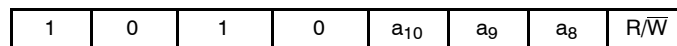

Figure 3. Slave Address Bits
The Master addresses a Slave by creating a START condition and then broadcasting an 8-bit Slave address (Figure 3). The four most significant bits of the Slave address are 1010 (Ah). The next three bits are internal address bits, a_{10} , a_9 , a_8 . The last bit, R/\overline{W} , instructs the Slave to either provide (1) or accept (0) data, i.e. it specifies a Read (1) or a Write (0) operation.